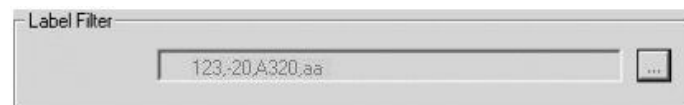

Figure 84: View Label Filter in Edit Filter Dialog
- 4) Click OK to confirm your entry. You can see the entered **label filter** in the **Edit Filter** dialog. *Please refer to the Figure 84.*